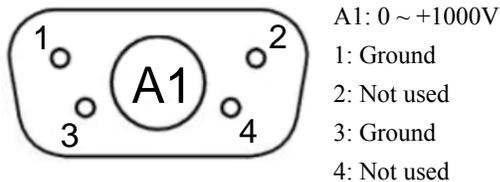

Figure 4. Pin Assignments for the Output Connector 5W1
- 5. OUT: The D-Sub 5W1 plug is the voltage output of the amplifier. The output voltage ranges from 0V to +1000 V; This is the connector \(part #: 681M5W1203LYYY\) used for the output, the pin locations in Figure 4; the cable connector \(part #: 680M5W1103L201\) can be used for mating with the output connector.